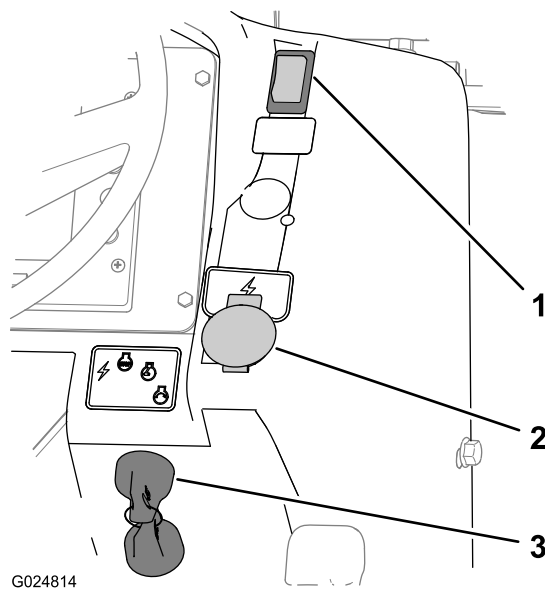

Figure 11
- Set the parking brake by pushing down the parking-brake switch (Figure 11).
Use the key switch to power the electrical accessories, start the machine, and stop the machine (Figure 11). The 4 key-switch positions are as follows: